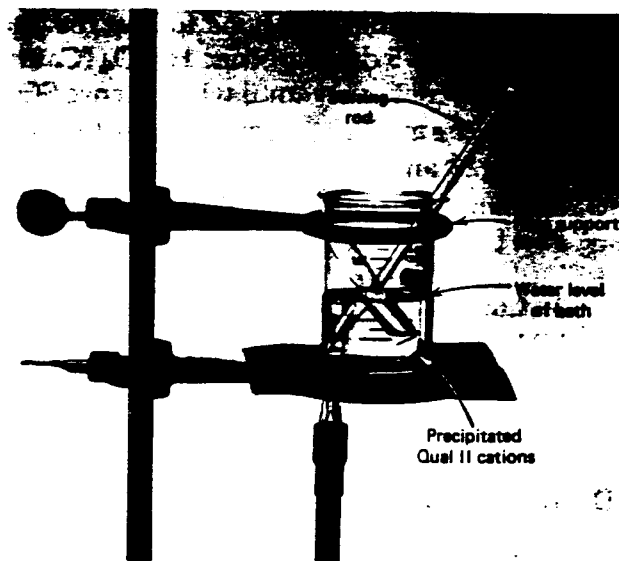

Figure 37.2. A hot water bath
2. **Precipitation of Cations as Sulfides.** Add 10-15 drops of 1 M CH₃CSNH₂, heat in a hot water bath (= 95°C) (Figure 37.2) for several minutes, cool, and centrifuge. Test the solution for complete precipitation by repeating the thioacetamide addition to the supernatant. The precipitate contains the SnS₂, PbS, Bi₂S₃, and CuS salts; #1 the supernatant contains cations that do not precipitate under these conditions (on the advice of your laboratory instructor, save for Experiments 38 and 39).